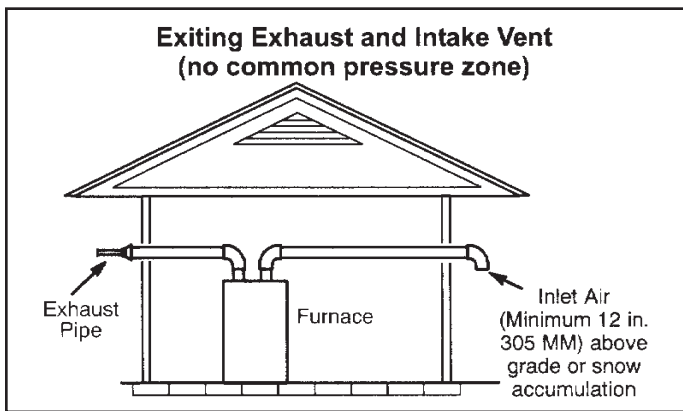
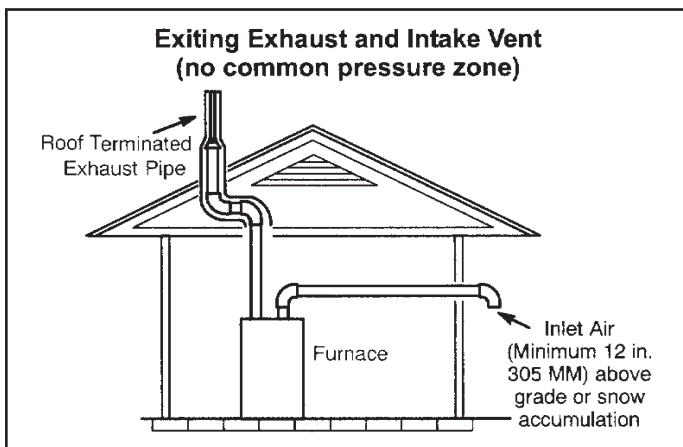

Figure 37.
Figure 38.
1. Intake and exhaust terminations are not required to be in the same pressure zone. You may exit the intake on one side of the structure and the exhaust on another side (Figure 37). You may exit the exhaust out the roof and the intake out the side of the structure (Figure 38).